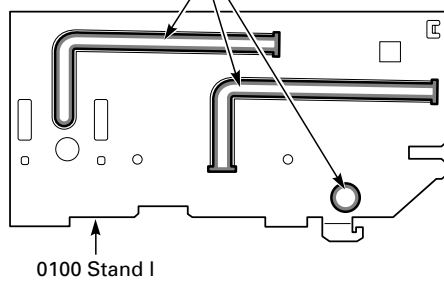
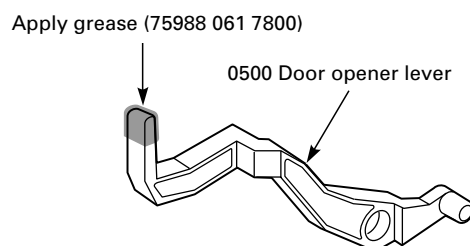

Fig. 8.5
Fig. 8.10
- Follow the instructions given in Fig. 8.5 – Fig. 8.10!